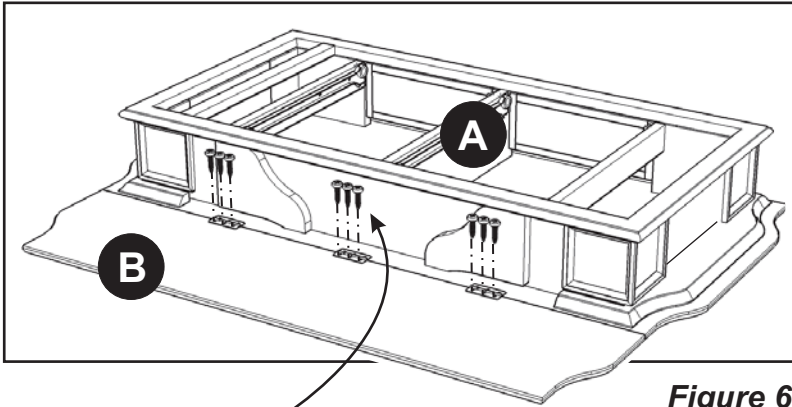

Figure 6
Attach Top unit (A) to Leaf Top (B) with Wood Screws. (See Figure 6)